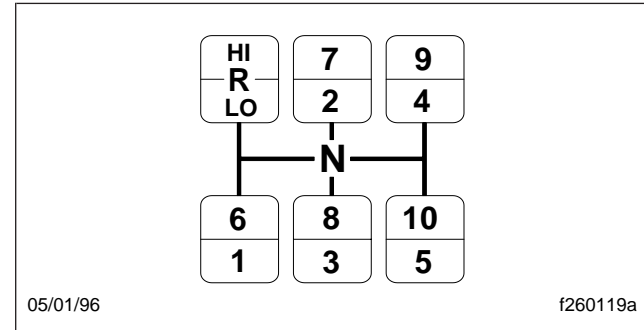
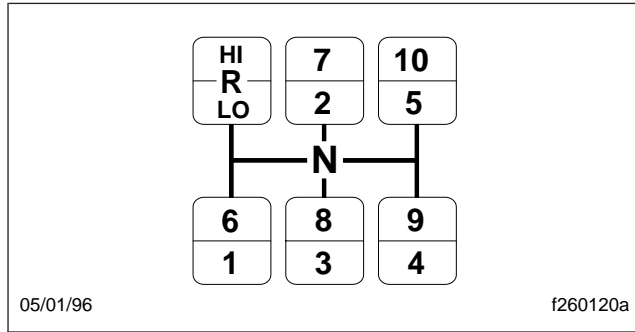

Fig. 5.5, Shift Pattern, 10-Speed (direct-drive models)
Fig. 5.6, Shift Pattern, 10-Speed (overdrive models)
Eaton Fuller 10-speed range-shift models are not synchronized. They have ten forward speeds and two reverse speeds. The shift lever controls five forward gears and one reverse gear in the transmission front section, and the range lever controls a LO and HI range in the two-speed auxiliary section. The five forward gears selected in LO range are used again in HI range to provide the 10 progressive forward gears. See Fig. 5.5 for the direct-drive shift pattern or Fig. 5.6 for the overdrive pattern.
1. Position the gear shift lever in neutral. See Fig. 5.5 or Fig. 5.6 for the shift pattern. Start the engine, and bring the air system pressure up to 95 to 125 psi (655 to 862 kPa).